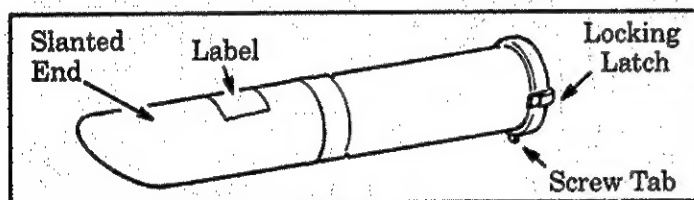

Figure 2
NOTE: The lower vacuum tube is cut at an angle. Make sure the label on the lower vacuum tube is aligned on the opposite side of the screw tab on the upper vacuum tube (shown in Figure 2).
2. Slide vacuum tubes together. Figure 2.